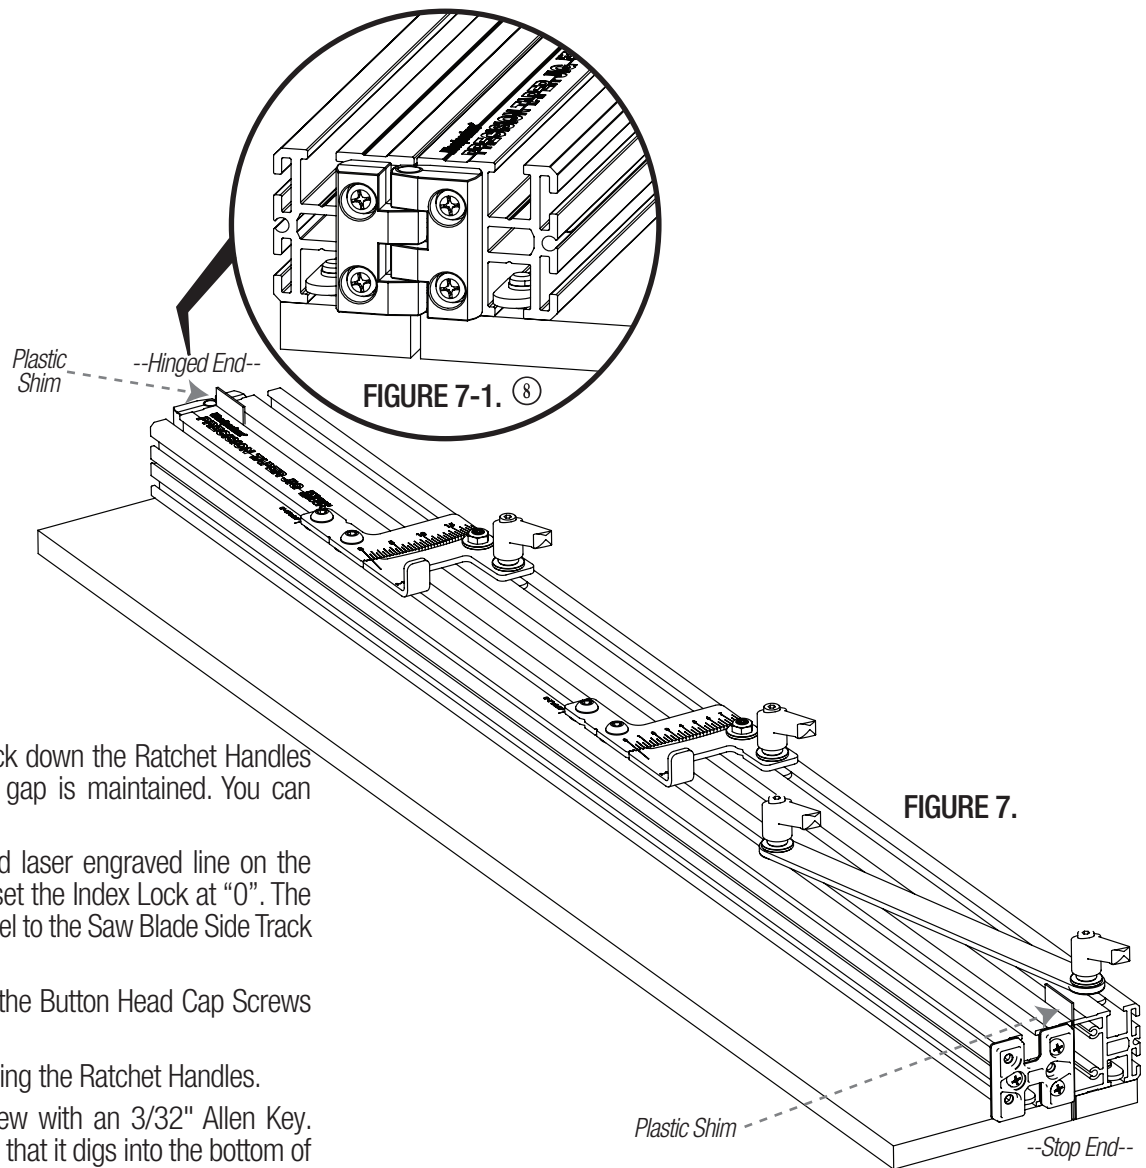

FIGURE 7.
2. Ensure that the gap between the Fence Side Track and Saw Blade Side Track at the Hinge End of the Precision Taper Jig matches the gap at the Stop End using the included Plastic Shims. **FIGURE 7.**